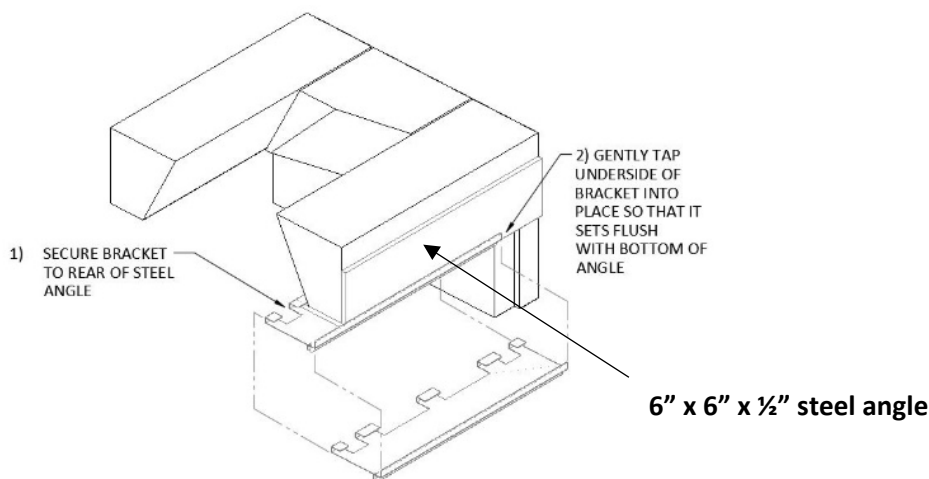

FIGURE 15
- 9) For the 72", 96" and 120" models, once the dampers beams are set into place, secure the Top Glass Bracket A (E-TG2) in place with the bottom of the angle steel as shown (**Figure 15**). Each model will require a different number of these to be spaced equally across the firebox's opening. Tap them into place utilizing a rubber mallet to prevent marring the finish.